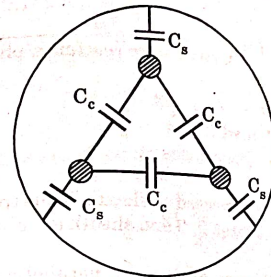

Fig. 5.9.1.
3. The capacitances are shown in the Fig. 5.9.1. The core to core capacitances are denoted as C_c while core to sheath capacitances are denoted as C_s .